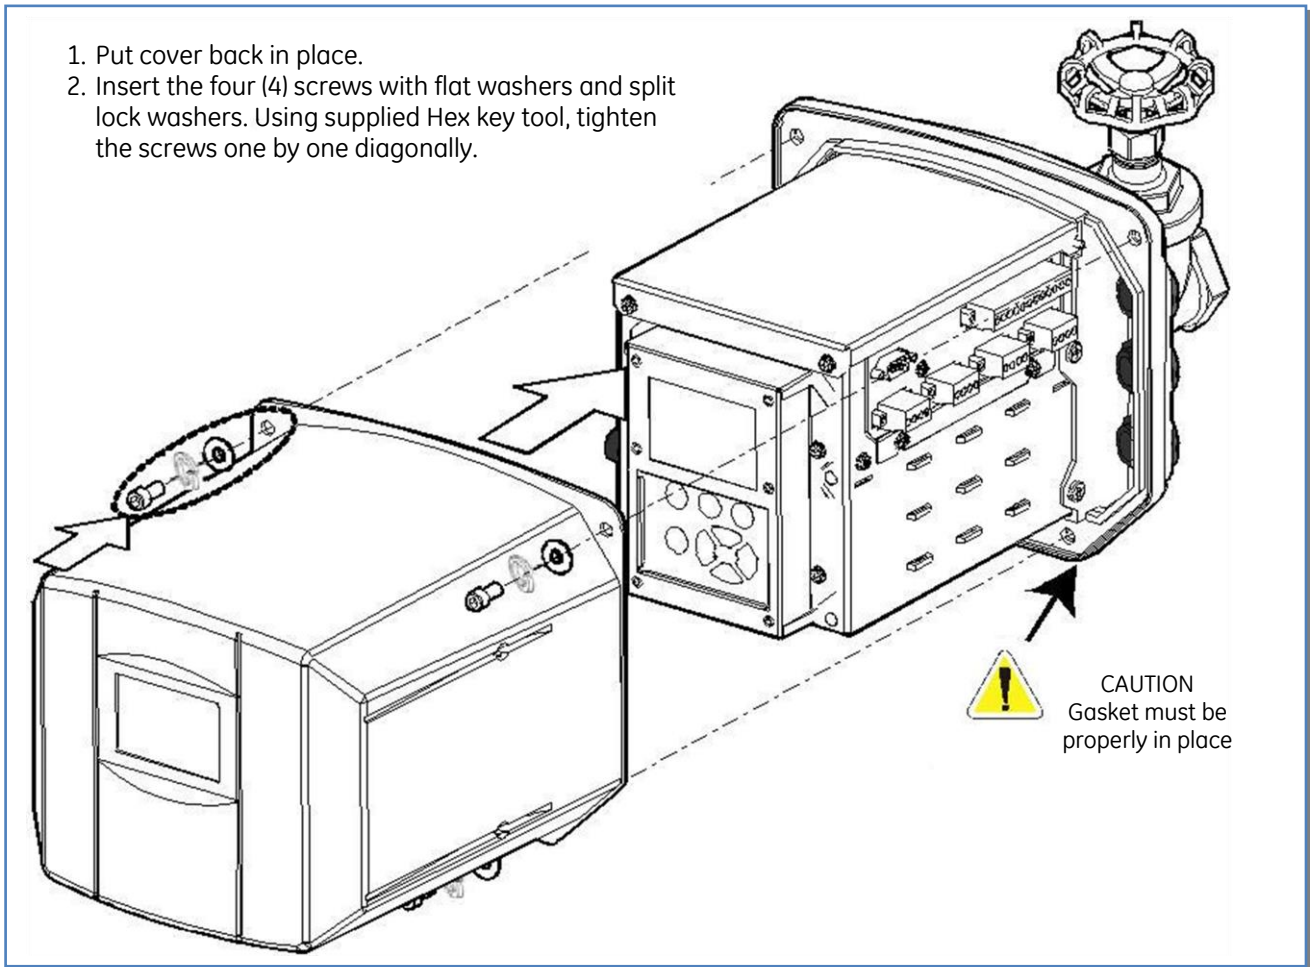

Figure 5-13: Fastening the Cover
3. Put the Hydran M2-X's cover back in place (see Figure 5-13). Ensure the gasket is properly positioned between the heater plate and the cover.